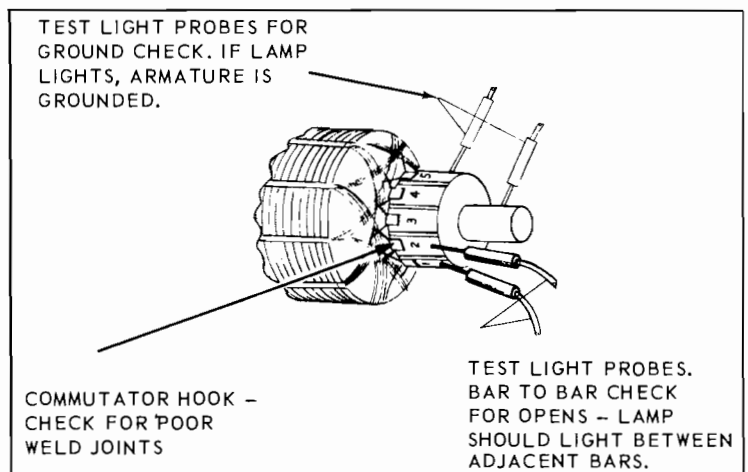

FIGURE 12
7. Intermittent Operation	Check items b, c, d, e, f in view opposite trouble condition no. 1 this chart. Also check for open armature Figure 12.
- (b) **Open** – Refer to Fig. 12.
- (c) **Grounded** – Refer to Figure 12